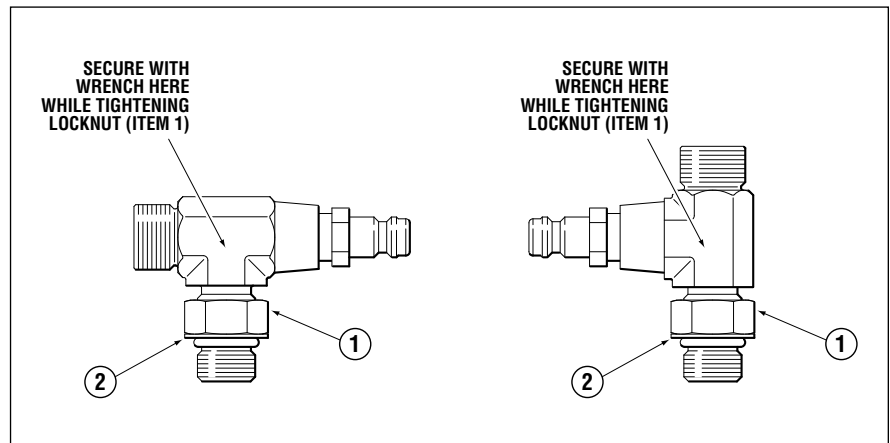

Figure 6
1. Back off lock nut (item 1, figure 6), counter-clockwise, until it stops.
2. Thread fitting into cylinder body until fitting washer (item 2, figure 6) contacts the face of the cylinder port. Tighten hand tight, **DO NOT TORQUE FITTING INTO GLAND.**
4. While holding fitting with a wrench, tighten the locknut (item 1, figure 6) and torque to 40–43 ft-lb.
Failure to properly tighten the locknut (item 1, figure 6) may lead to loss of steering control. Loss of steering control may result in unpredictable boat behavior, collision with an obstacle and/or ejection from vessel, leading to property damage, personal injury and/or death.